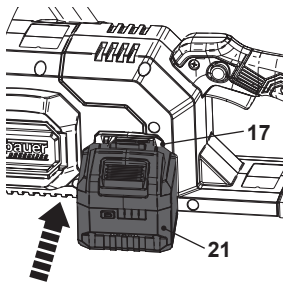

Fig. 13
1. Align the battery pack (21) with the sliding slots of the battery docking port (17) and slide the battery pack (21) in to attach it. Ensure it clicks in place (Fig. 13).